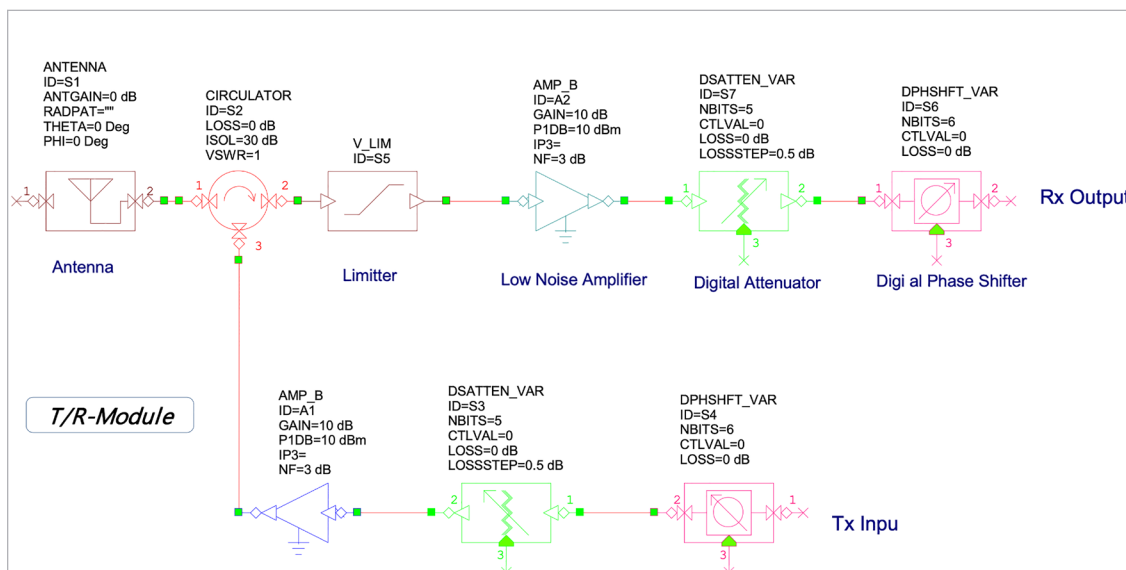

Figure 1: T/R module block diagram.
Transmit/receive (T/R) modules are at the heart of all radar systems employing beam-steering phased-array antennas. These active phased-array radars (APARs) typically require solid-state T/R modules with high-output power, low-noise figure (NF), high third-order intercept (TOI), and sufficient gain in order to function properly. Since the T/R module is 40-60% of the overall RF front-end cost, it is imperative to use an architecture that meets all requirements with the most cost-effective technology, such as monolithic MMICs, and a minimal bill of materials (BOM). This article overviews various solid-state semiconductor technologies for T/R module development and describes a design methodology that includes the modeling/analysis of a T/R module. A basic functional block diagram of a simple T/R module structure is shown in Figure 1.